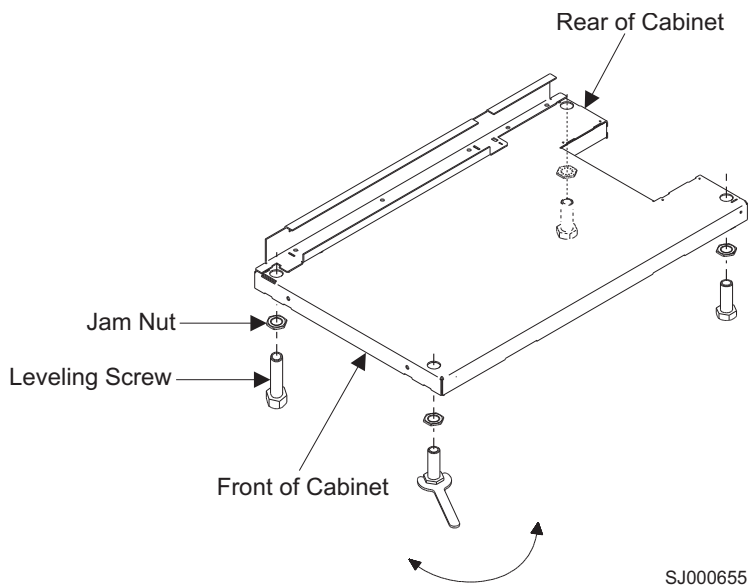

Figure 85. Leveling the rack
27. Adjust the leveling feet downward, as needed, until the rack is level. See Figure 85. When the rack is level, tighten the jam nuts against the base by turning the jam nut clockwise (toward the bottom of the rack). Torque the four bolts to 54–67 nm (40–50 ft-lbs).